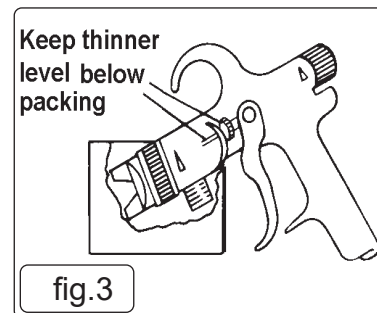

fig.3
- 6.1.1. Immerse the front end of the gun only in solvent until the solvent just covers the fluid connection (fig 3).